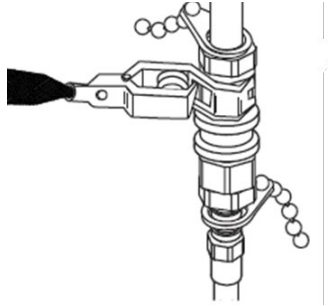

Figure 7: Attach the Ground Wire
- j. Attach the ground wire by clamping one end to the sampling assembly and the other end to a proper grounding point (Figure 7).